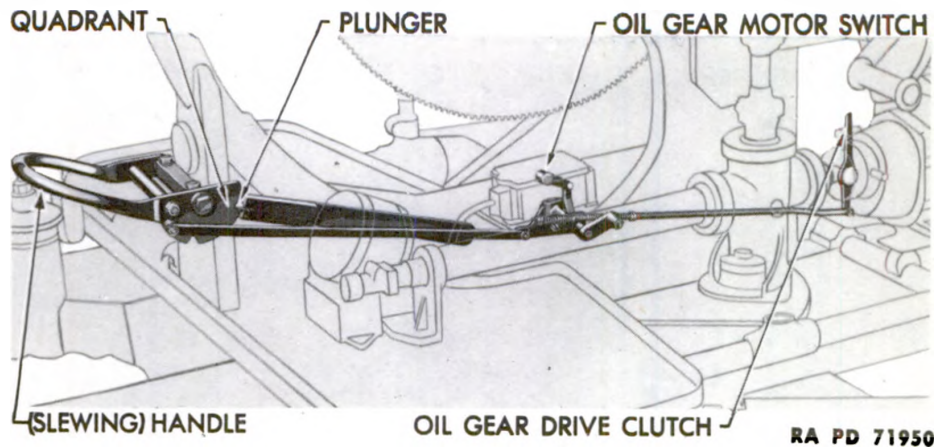

Figure 51 – Power Synchronizing Mechanism –Phantom View
a. The power synchronizing mechanism (fig. 51) provides a means